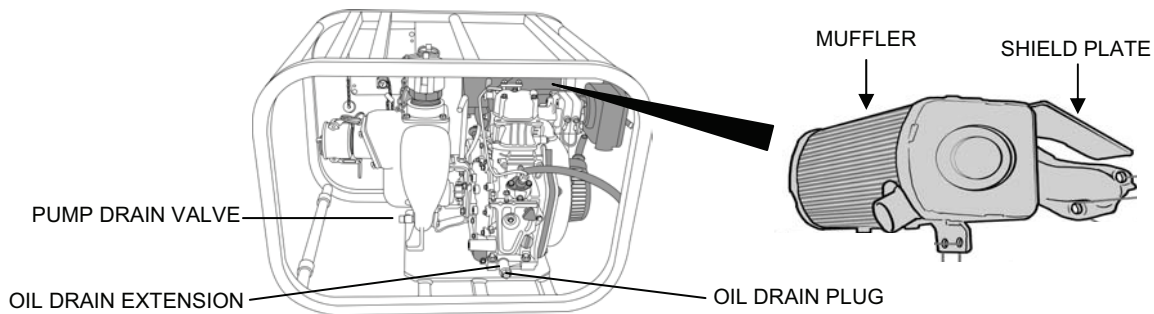

Figure 3. Diesel Engine Pump Drain, Oil Drain Extension, and Muffler Shield Plate.
- g. Open the pump drain valve and drain any water remaining in the pump, then close the valve (see Figure 3).
- a. Remove the oil drain plug from the new engine. Install the oil drain extension and washers that were removed from the old engine. Install the drain plug on the extension (see Figure 3).
- d. Install the exhaust shield plate on the top of the muffler assembly (see Figure 3).